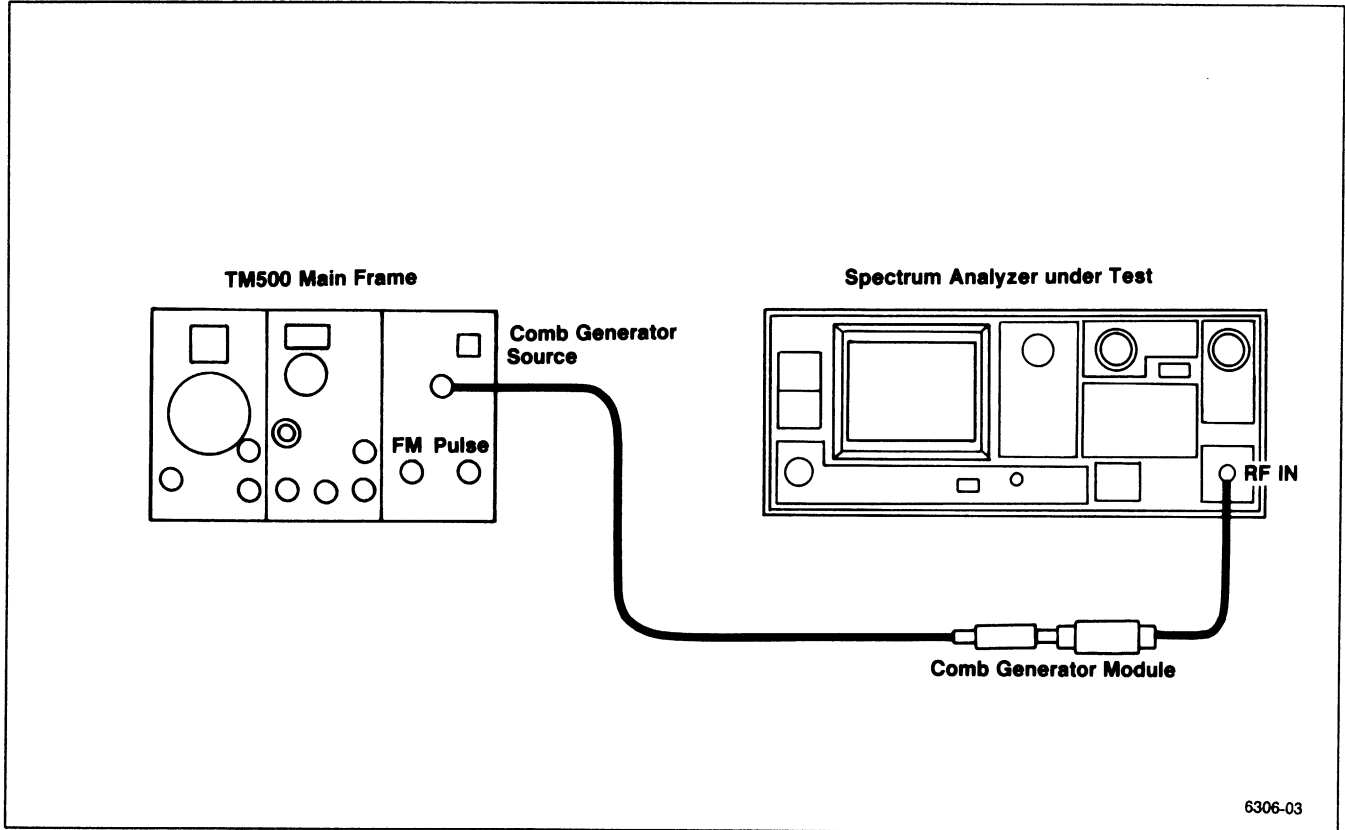

Figure 4-3. Test equipment setup for checking center/marker frequency accuracy.
c. Connect the test equipment as shown in Figure 4-3.